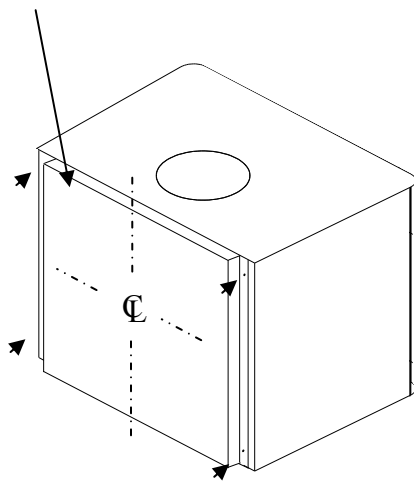

Figure 11A
1. Center rear close clearance shield with back of stove. Mark rear of stove, using reference holes in rear shield. Using self-tapping screws, drill four holes in locations marked. Remove screws and attach rear shield to back of stove. see figure 11A.